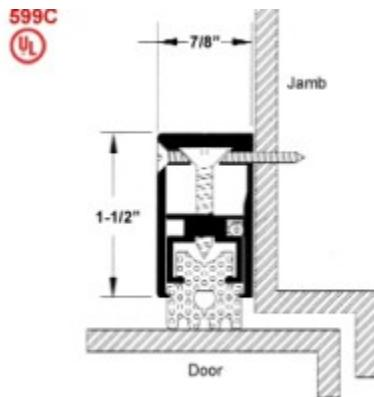

Figure 1
1. Have sound proofing which includes preventing sound from being heard over the walls through the ceiling. This room requires 2x6 framing to the bottom of the ceiling trusses, 5.5 inches of insulation in all walls and R39 in the ceiling, insulation in trusses, as well as gasket type Door Seal as made by Acoustical Surfaces, Inc. 123 Columbia Court North, Suite 201, Chaska, MN 55318 or equal product, (See figure 1), also the door and frame must be insulated and the threshold must have a rubber sweep.